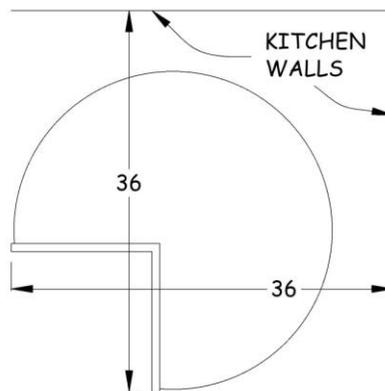

Figure 17-3. Corner Cabinet Installation
2. Set the corner carousel unit in place with the faces 36” from each wall as shown in Figure 17-3.